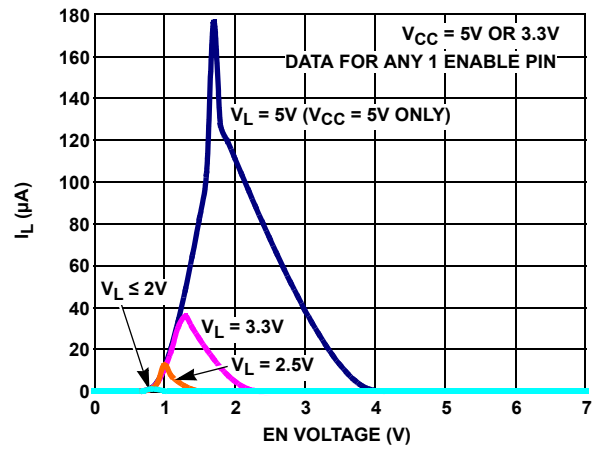

FIGURE 11.  $V_L$  SUPPLY CURRENT vs ENABLE PIN VOLTAGE (ISL32X77E ONLY)
Logic input pins (enables, SHDNEN) contain no ESD nor parasitic diodes to  $V_{CC}$  (nor to  $V_L$ ), so they withstand input voltages exceeding 5.5V regardless of the  $V_{CC}$  and  $V_L$  voltages (see Figure 11 on page 14).
Neglecting the RO IOH currents, the quiescent VL supply current (IL) is typically less than 1μA for enable input voltages at ground or VL, as shown in Figure 11 on page 14. Enable pin pull-up resistors connect to VCC, so the current due to a low enable input adds to ICC rather than to IL.